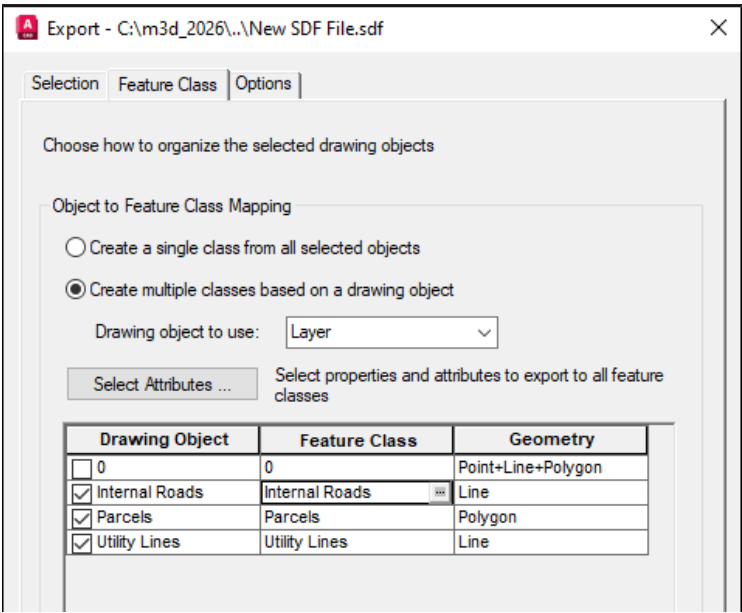

Figure 2-42 The partial view of the **Export** dialog box showing the Browse button displayed in the **Internal Roads** cell
14. Next in the **Export** dialog box, click on the **Internal Roads** cell of the **Feature Class** column in the table; a Browse button is displayed in the cell, as shown in Figure 2-42.